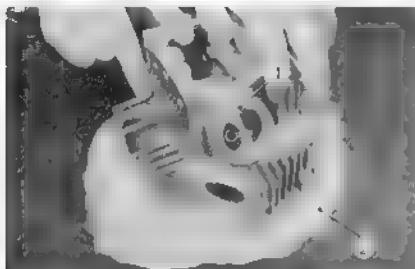

Fig. 3.18 Checking cylinder head warpage
To inspect for warpage of the cylinder head ① apply a thin coat of bluing or red lead ② on a surface plate and work the mating surface of the cylinder head on the surface plate, the warpage can be determined by the transfer of the bluing on to the cylinder head. (Fig. 3.18)